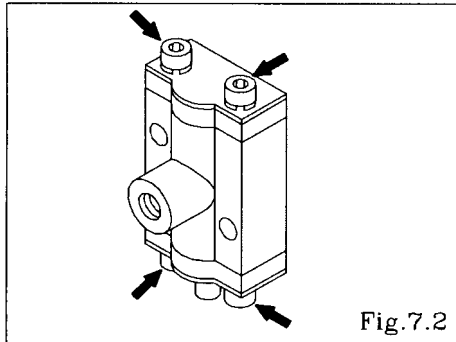

Fig.7.2
- Remove the 2 retainer bolts from the cap, and remove the reinforcement plate A, cap and reset button. [Fig.7.2]
- Remove the 2 retainer bolts from the cap, and remove the reinforcement plate B, and cap. [Fig.7.2]